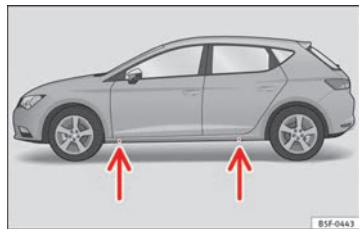

Fig. 173 Crossbar: marks.
- Find the support point on the strut (sunken area) closest to the wheel to be changed → Fig. 173. The jack* support point is behind the mark on the strut.